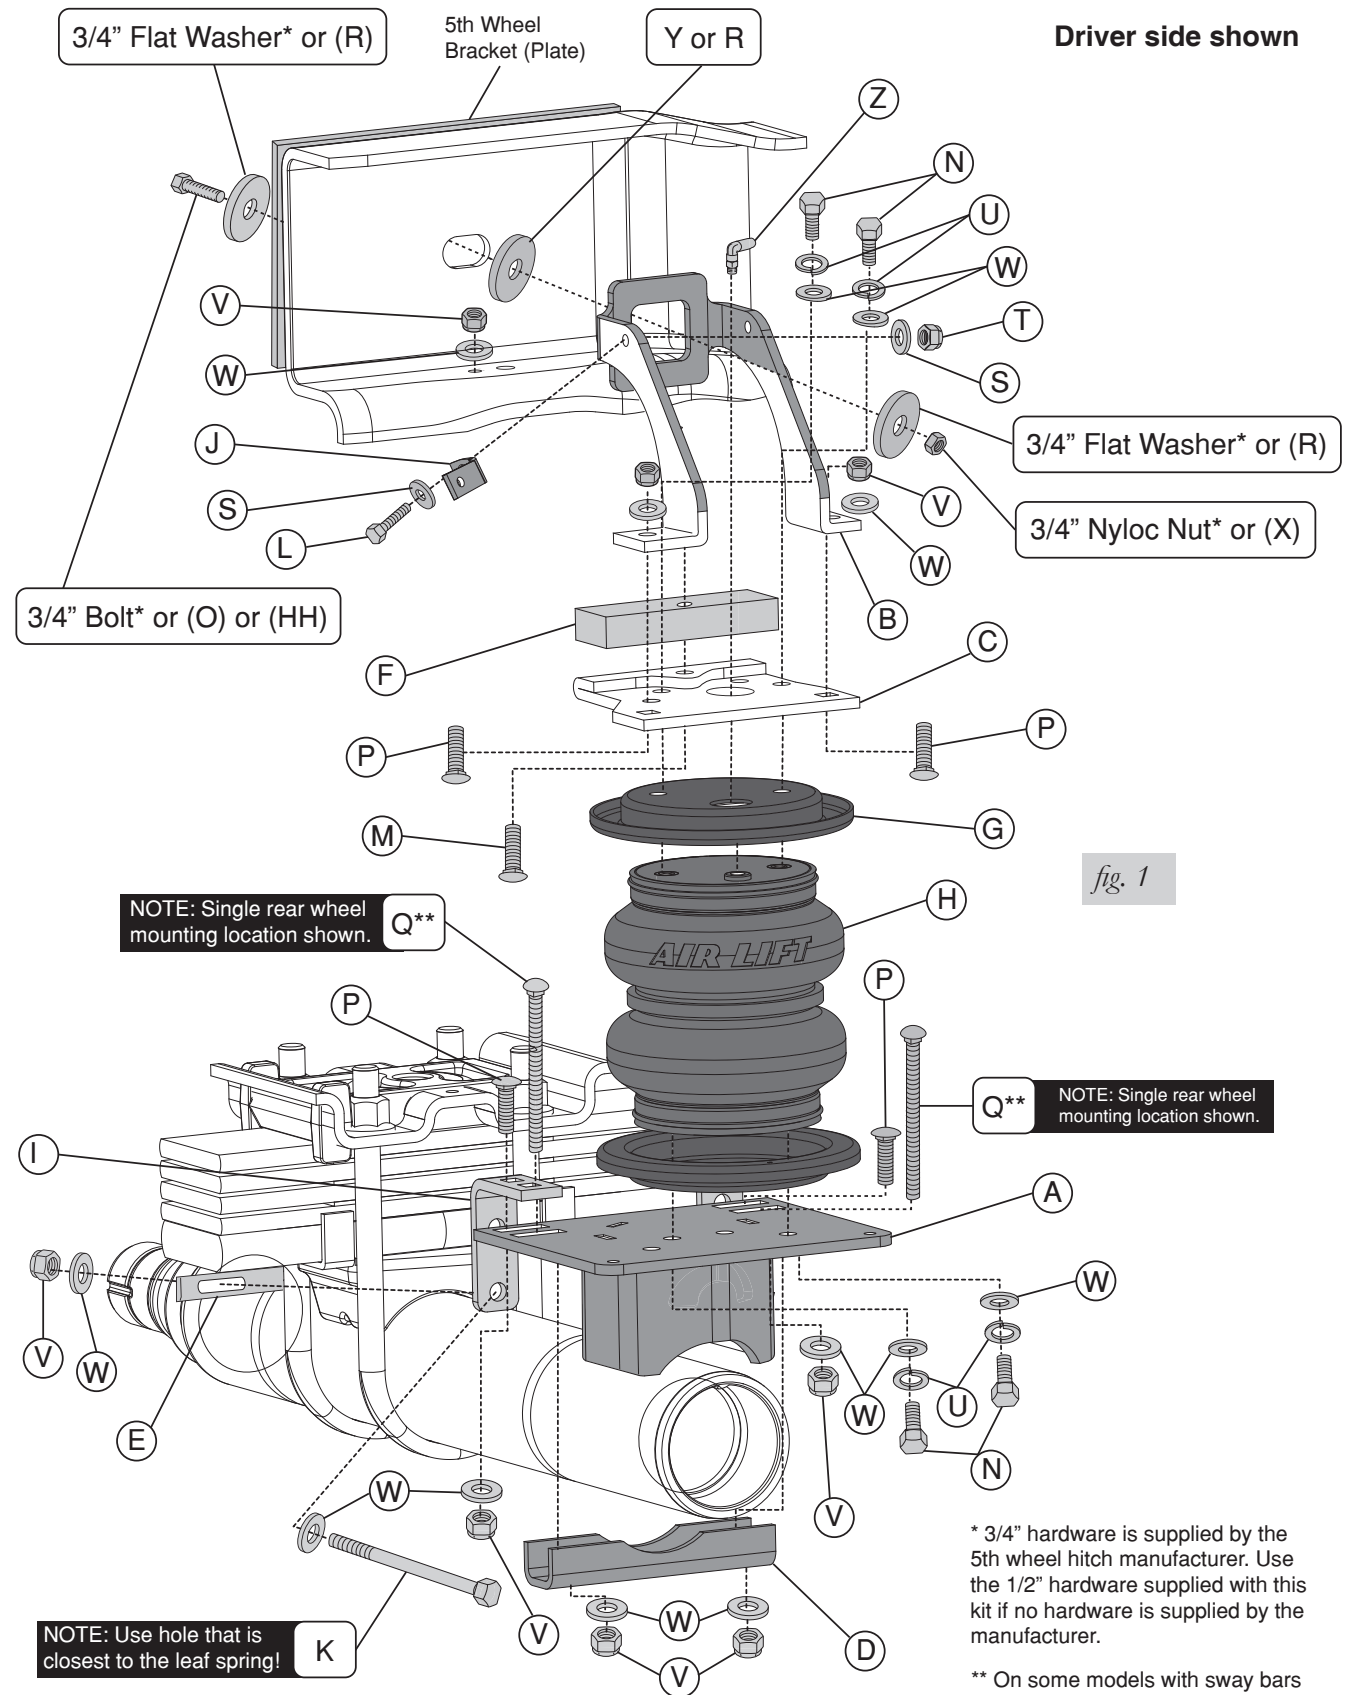
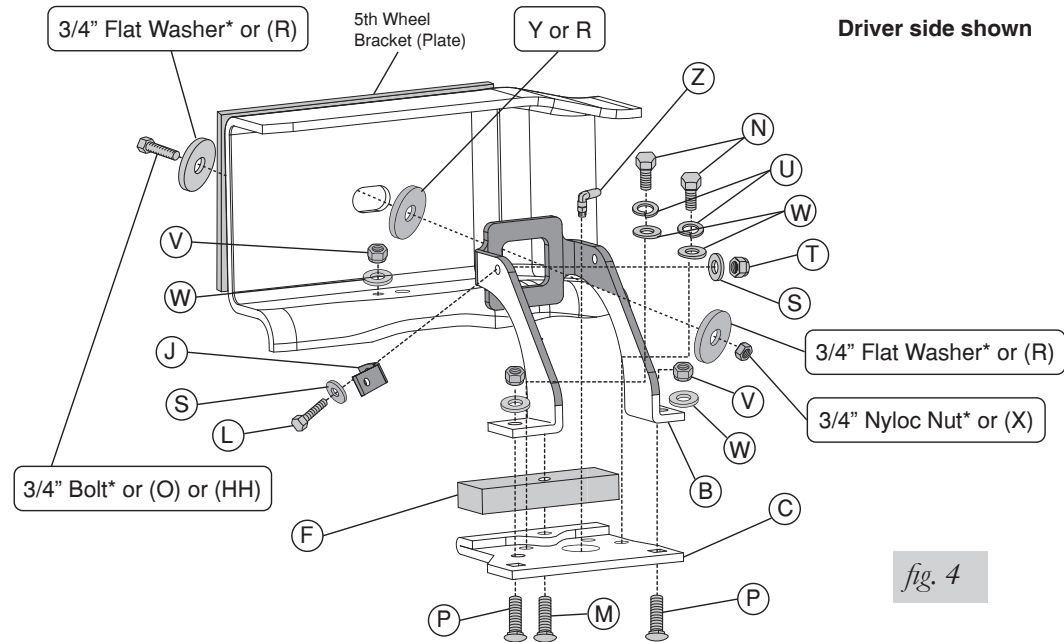

fig. 1
fig. 4
5. If you have a fifth wheel hitch already installed, it will be necessary to remove the 3/4" hardware that bolts the side bracket to the outside of the frame above the axle (Fig. 1).
- *Attach the L-bracket (J) to the back frame brace using the 1/4" bolt (L), flat washers (S) and nyloc nut (T) supplied (Fig. 1). This L-bracket will eventually be used to attach the previously removed emissions line. Do not attach the line holder to it at this time.*
1. Set the upper brace (B) into the driver and passenger side frame (Fig. 4).
If you have an aftermarket fifth wheel hitch that has a bracket (plate) running along side of the frame and it used this slot to secure the bracket to the frame with existing hardware, install the existing hardware previously removed in the “getting started section” from the fifth wheel installation for securing the brace (Fig. 4). Make sure to install the large 3/4” flat washer (Y) between the brace and frame (Figs. 1 and 4). Do not tighten at this time.
Insert a 1/2”-13 x 3.00” hex cap screw (O) with a flat washer (R) through the fifth wheel plate previously drilled, the frame, then through another flat washer (R) and finally the upper frame brace. Cap with a flat washer (R) and a 1/2”-13 Nyloc nut (X) (Fig. 4). Leave loose at this time.
1. Set a roll plate (G) over the top and bottom of the bellows (H) (Fig. 1).
2. Set the left (driver side) assembly onto the axle (Fig. 1). Raise the axle just enough to insert the long carriage bolt (M) (that is installed in the upper bracket) through the existing jounce bumper hole in the bottom of the frame. At the same time, line up the upper brace previously installed onto the remaining two carriage bolts (P) in the upper bracket. Do this just enough for the carriage bolt to hold the assembly into position on the axle (Fig. 1).
3. Set the right (passenger side) assembly into position on the axle the same way the left side was positioned (Fig. 1).
4. Raise the axle or lower the frame down so that the thick spacer (F) on the upper bracket is parallel to, and contacts the frame (on both sides).
5. Install the 3/8" Flat Washer (W) and a 3/8"-16 Nyloc nut (V) on the carriage bolt (M) that went through the existing jounce bumper hole and tighten securely on both sides (Fig. 1).